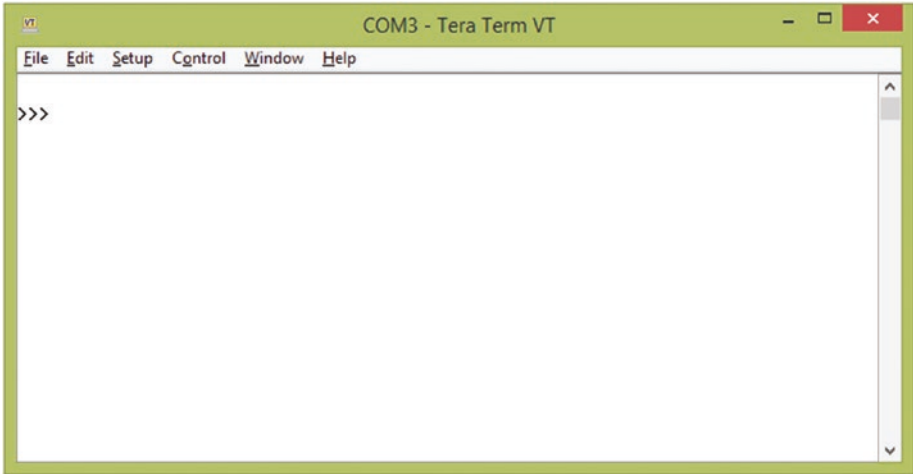

Figure A-7. *Getting to the prompt*
1. Within the Tera Term window, press the Enter key to enter command mode. You should see a prompt with three greater than signs (see Figure A-7).